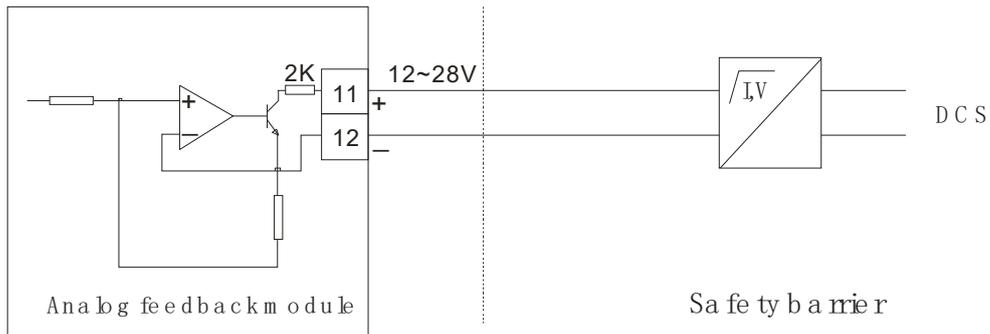

Fig.4-10 Analog feedback output module electronic connection
4.4.2.3 Analog feedback module electrical connection (Fig.4-10)